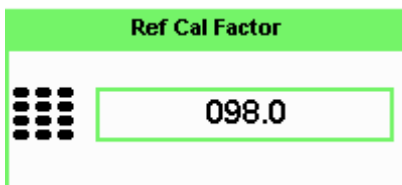

Figure 7-125 Reference Calibration Factor pop-up window
- 4 To change the settings, press the channel **REF CF**. The reference calibration factor pop up window is displayed as shown in Figure 7-125. Use the numeric keypad to enter the required value in the **Ref Cal Factor** pop-up menu.